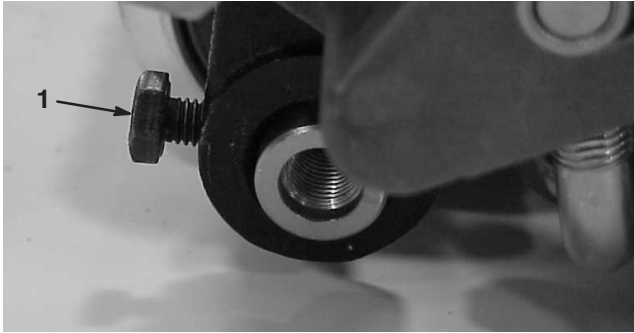

Figure 21
- 37. Insert the roller shaft into the height-of-cut arm and loosely secure with a M6 capscrew (Fig. 21).
- 38. Center the roller between the arms and tighten both mounting capscrews (Fig. 21).